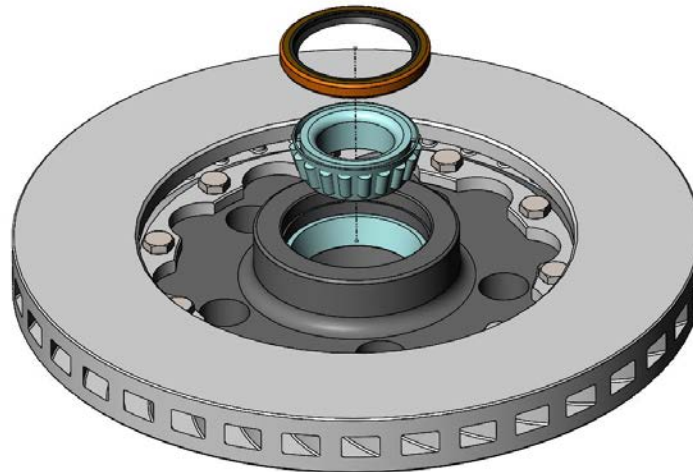

Figure 4 – Bearing and Grease Seal Installation
- The wheel bearings can now be packed with a high quality wheel bearing grease available at your local parts store and the bearings can be installed in the rotors at this time. Once the inner bearing is installed, tap the inner seal in at this point. Figure 4 below shows the installation of the bearing and grease seal.